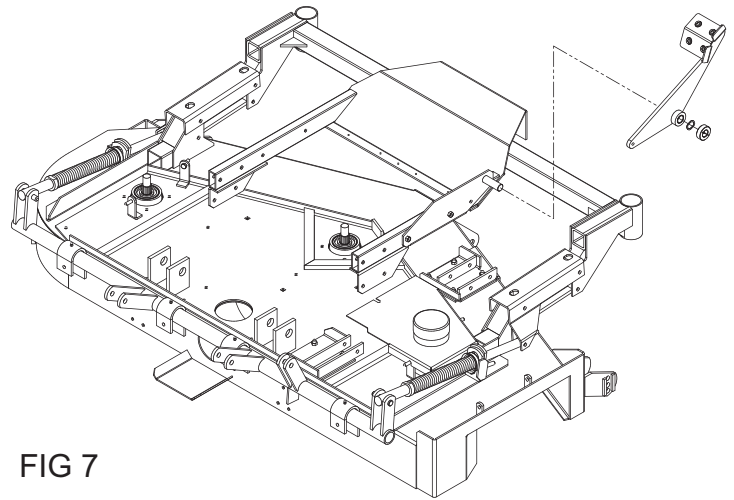

FIG 7
- F. The foot pedal will be retained onto the pedal mount using the 3/4" wavy washer and 3/4" clamp collar found in the bolt bag as shown in Fig. 7.